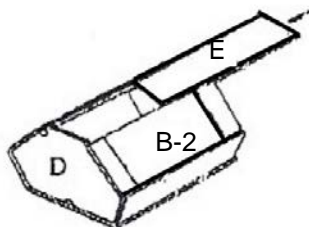
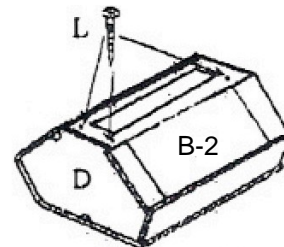

Figure 7
Figure 8
5. Installing the Back Panel (Figure 7): Slide the back panel (E) into grooves of rear side Panel (B-2) Make sure the finished side of panel is towards the inside of the cabinet. Once the back panel is assigned and fitted tight, secure it with 1" Back Panel Screws into the pre-drilled holes on the back panel (Figure 8).